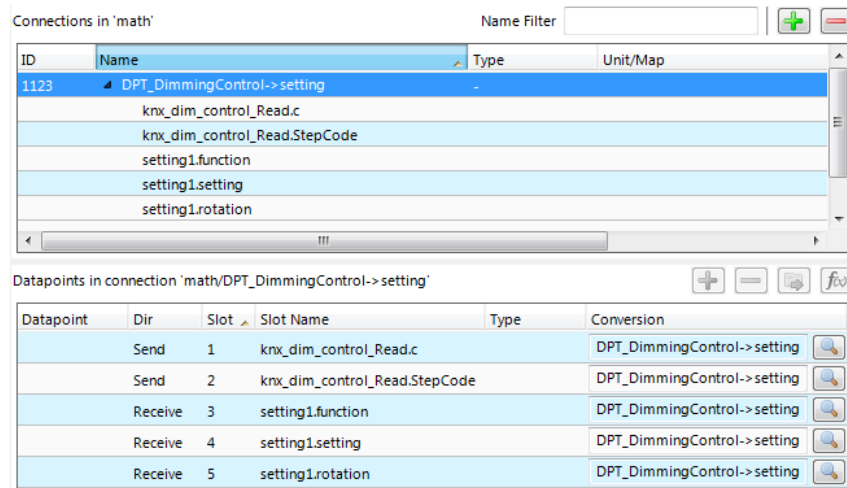

Figure 24: Created new multi-slot connection from math adapter.
2. In the dialog **Select Multi-Slot Math Adapter** select an existing adapter and click **Select**. A new multi-slot connection is added to the connection list with empty slots as depicted in Figure 24.